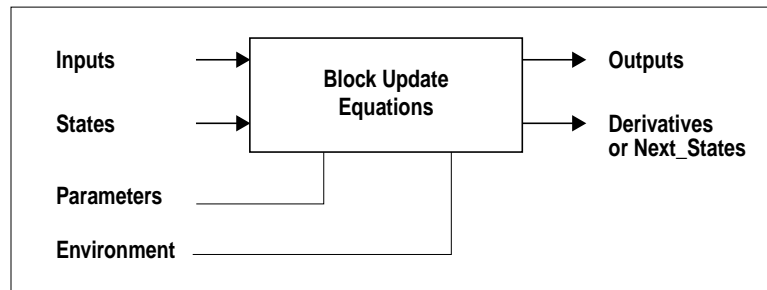

FIGURE 12-1 Block Structure Paradigm (Continuous Shown)
This section explains the Integrated Systems block paradigm (Figure 12-1) and shows how the structure of the BlockScript program supports it.
- Block variables correspond to data flow and parametric entities in the block dialog for the block being defined. These are the inputs and outputs of the block update equations illustrated in Figure 12-1 on page 12-1.
All the inputs and outputs in Figure 12-1 are defined using lists of block variables, and the updating of the outputs and derivatives is performed using the equations in the BlockScript program. The design of the BlockScript program lets you choose variable names that are descriptive in the context of the block equations.